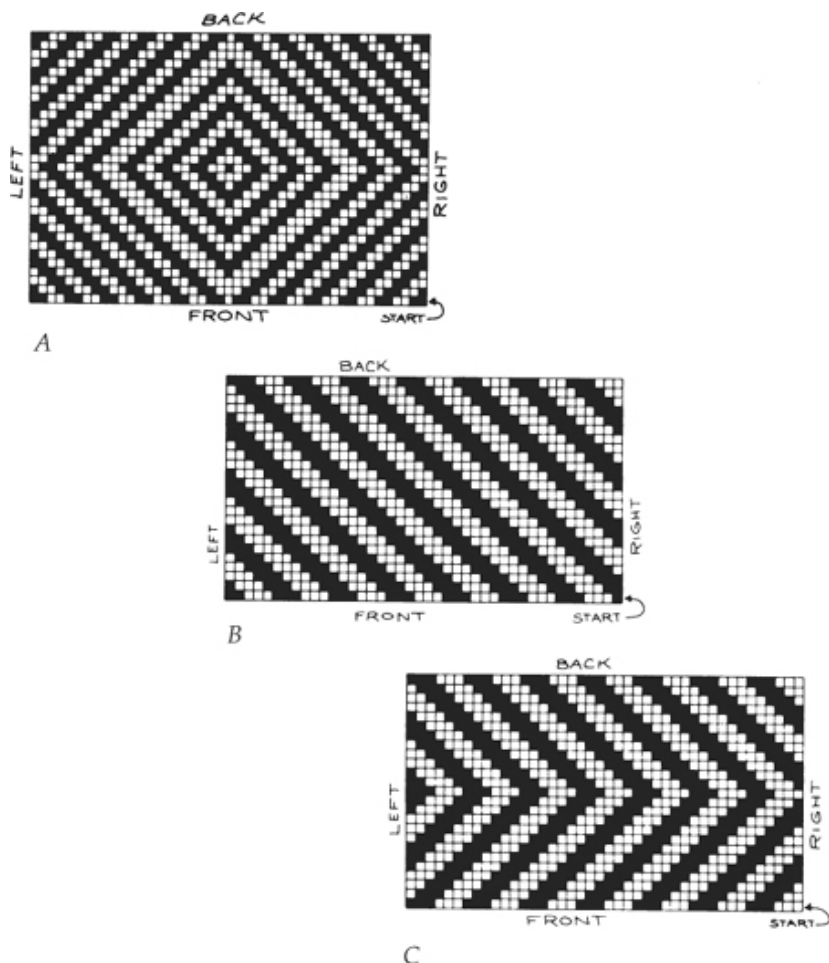

fig. 22
12. Pick a pattern. See A, B, and C in Figure 22. Patterns B and C are variations of the basic pattern A. Start the weave on the front of the right rail and read the pattern from right to left. Each square represents one pair of warp or weave strands. The black sections designate that you weave over the warp strands and the white squares designate that you weave under the warp strands.